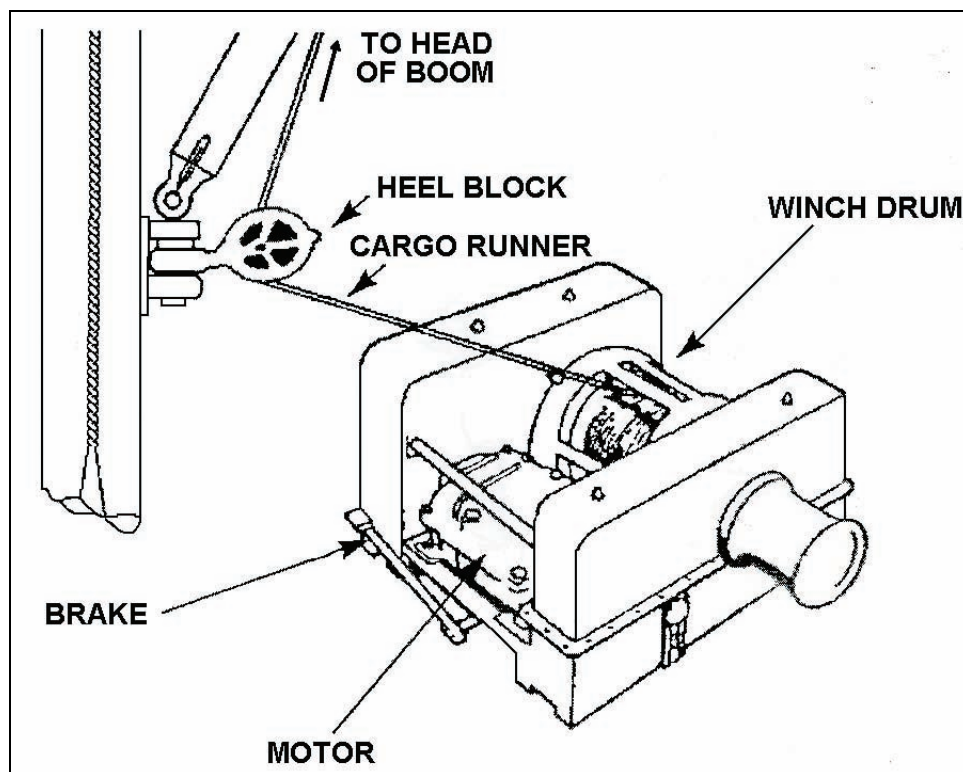

Figure 3-21. Cargo Runner Led Over Winch Drum
- a. Inspect winches to ensure runners are wound in correct direction and are free of foreign objects (such as dunnage, paper, rags, and trash) (see Figure 3-21).